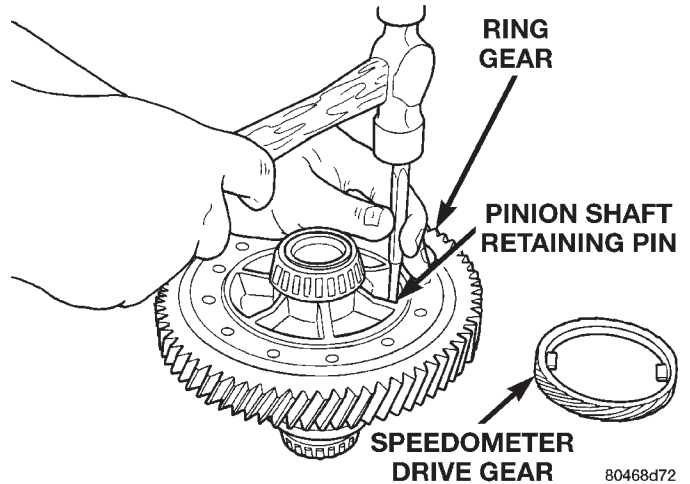
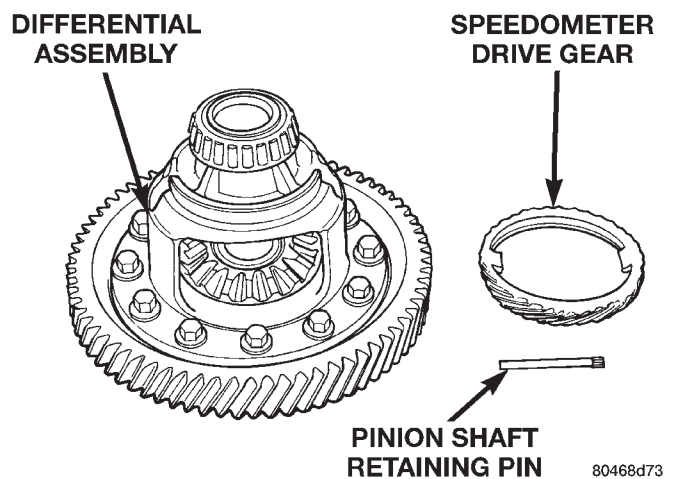

Fig. 117 Remove Pinion Shaft Retaining Pin
Fig. 118 Retaining Pin Removed
(1) Remove pinion shaft retaining pin (Fig. 117) (Fig. 118).